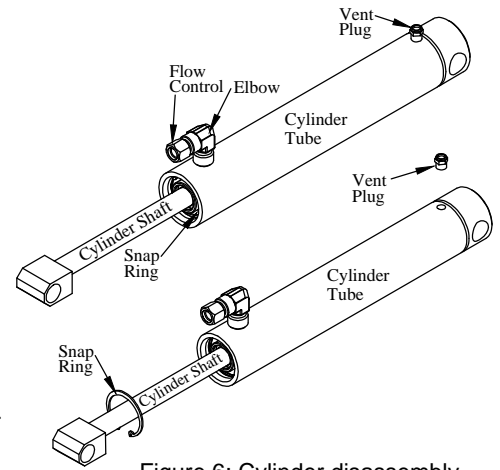

Figure 6: Cylinder disassembly.
1. **REMOVE** the vent plug (Figure 6).
3. **REMOVE** the 1-7/8" snap ring (relaxed measures 2-1/16") (Figure 6).